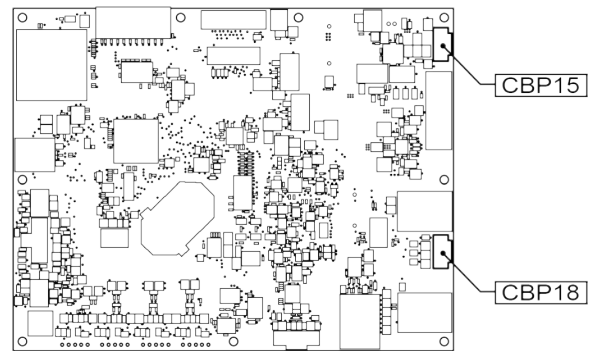

Figure 15
10. Using the harness included with the printer, connect to the control board as shown in Figure 15. The wires are marked with their respective connector labels.